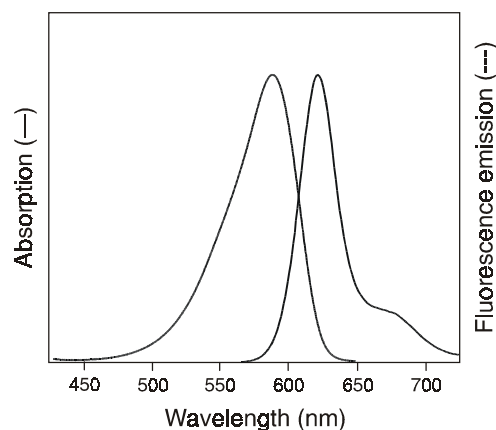

Figure 1. Normalized absorption (—) and fluorescence emission (---) spectra of the BODIPY TR-X dye.
The microplate included with the RediPlate 96 EnzChek Protease Assay Kit for red fluorescence is pre-loaded with a casein derivative that is heavily labeled with the pH-insensitive, red-fluorescent BODIPY® TR-X dye (excitation/emission ~589/617 nm, Figure 1). The heavy labeling of the casein results in almost total quenching of the conjugate's fluorescence²; however, protease-catalyzed hydrolysis relieves this quenching,
3.7 Measure the fluorescence. Use a fluorescence microplate reader equipped with appropriate filters. BODIPY TR-X dye-labeled peptides have excitation/emission maxima of approximately 589/617 nm (see Figure 1). Filters appropriate for Texas Red[®] dye (e.g., excitation = 590 ± 10 nm, emission = 645 ± 20 nm) can be used to detect the red-fluorescent BODIPY TR-X dye-labeled peptides.
4.8 Measure the fluorescence. Use a fluorescence microplate reader equipped with appropriate filters. BODIPY TR-X dye-labeled peptides have excitation/emission maxima of approximately 589/617 nm (see Figure 1). Filters appropriate for Texas Red® dye (e.g., excitation = 590 ± 10 nm, emission = 645 ± 20 nm) can be used to detect the red-fluorescent BODIPY TR-X dye-labeled peptides.